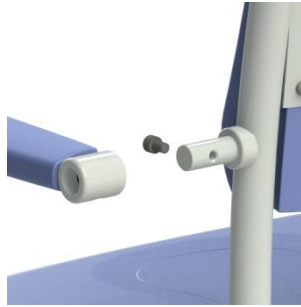

Figure 6 Armrest
- Allen key 6mm
- Check its room for motion, measured at the front point (replace if it is more than 4 cm.) (See figure 6). \_\_\_\_\_